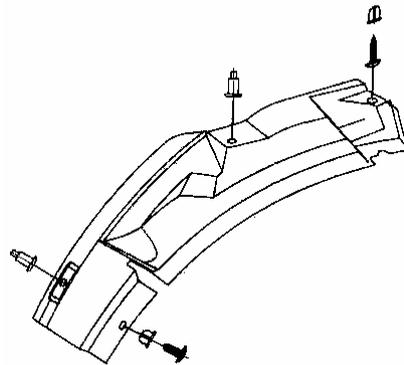

Fig. 19-34
- ① Attach rear wheel splash guard firmly to body in its right position;
- ② Tighten the screw to fix the wheel splash guard firmly according to the arrow direction with clip and tapping screw as shown in Fig.19-34.